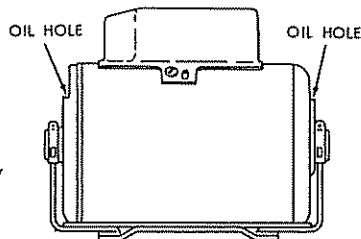

Figure 7
- Re-lubricate motor bearings occasionally at the oil hole located near the top of the hub on each end shield. (See figure 7.) Be sure to wipe off dirt or grit if present around oil holes to prevent any possibility of foreign material contaminating the oil wicks that supply the bearings with oil. Use a good grade of medium weight mineral oil, such as automobile engine oil SAE 20.